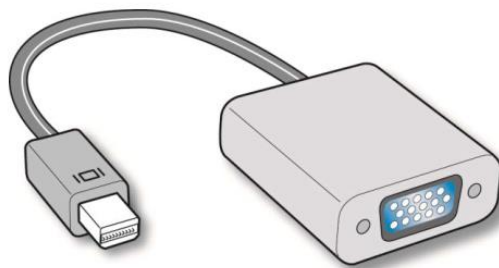

Figure 1: Mini DisplayPort to VGA adapter cable.
- Mini Display Port to VGA adapter cable (Figure 1)